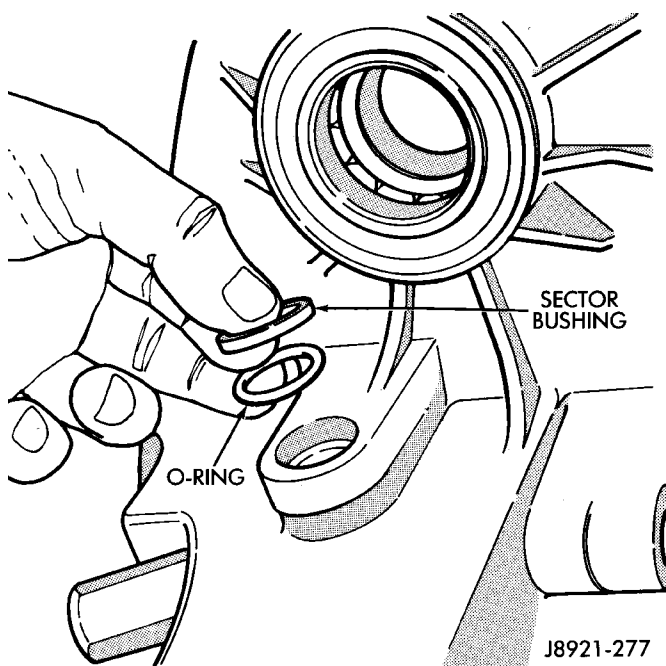

Fig. 59 Sector O-Ring And Bushing Installation
(1) Install new sector shaft O-ring and bushing (Fig. 59).